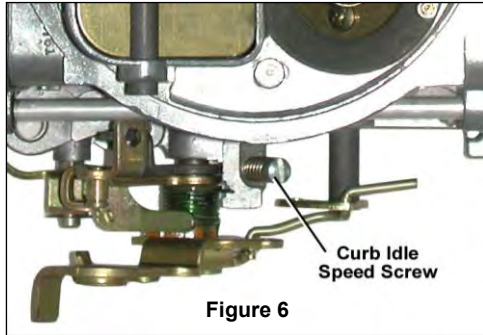

Figure 6
10. Adjust the curb idle speed (Figure 6).